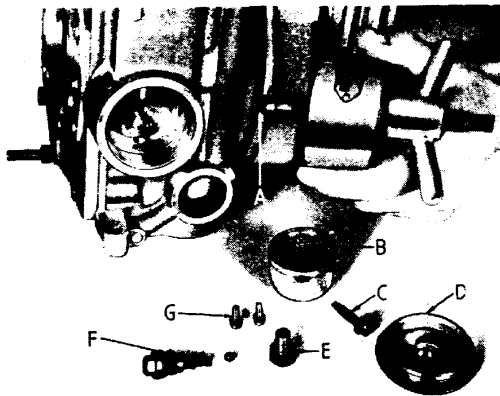

Fig. 10 Inserting the Oil Pump Extractor, Churchill Tool No. L 183.
1. Removing and Refitting the Oil Pump. (Fig. 10).